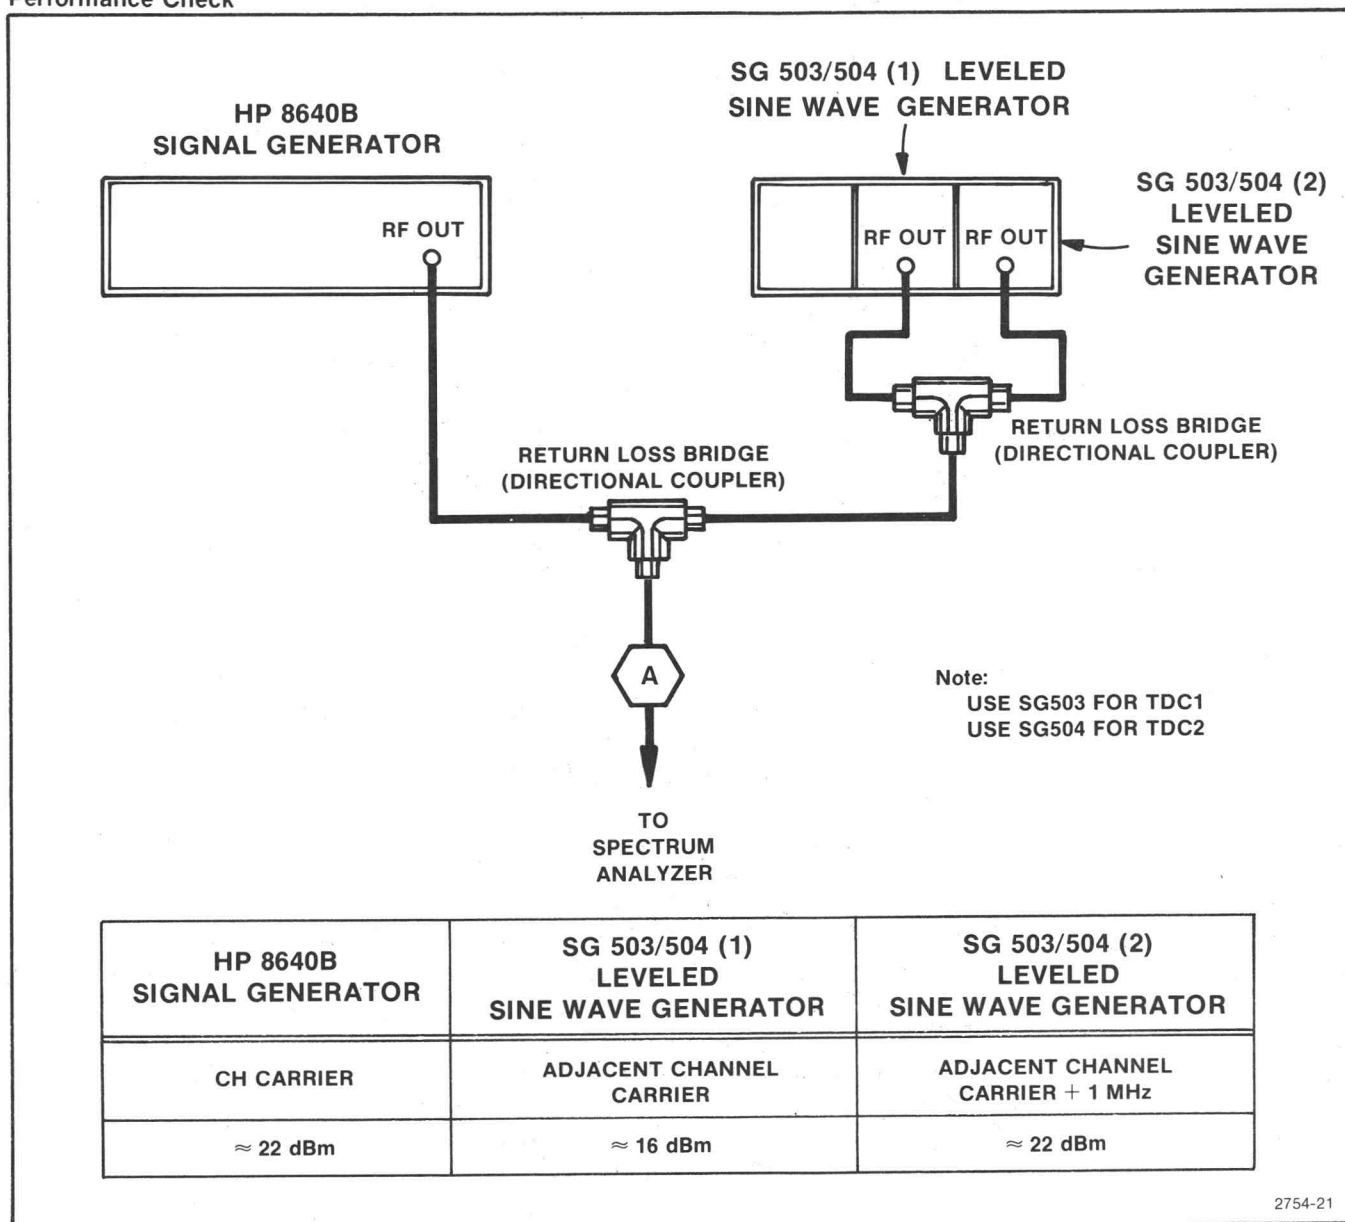

Fig. 4-10. Test Setup for Measuring Adjacent Channel Cross-modulation.
a. Connect the test equipment as shown in Fig. 4-10, and tune the down converter to a specific channel. Use a spectrum analyzer such as a 7L13 to set the power levels at point 'A' in Fig. 4-10 according to the following table:
b. Now connect point 'A' in Fig. 4-10 to the SYSTEM RF Input. Push in the 1450-1 Cont (Synchronous Detection